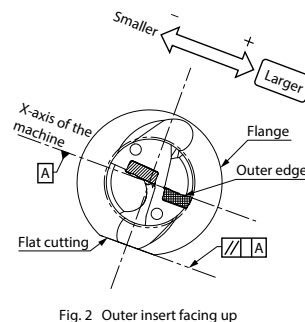
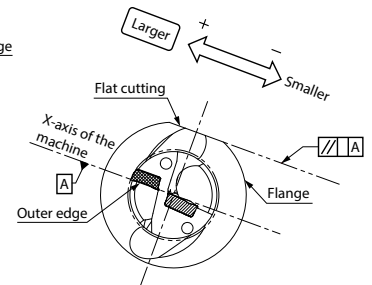

Fig. 2 Outer insert facing up
Fig. 3 Outer insert facing down
2. For making the hole diameter larger, slide the tool along the X-axis toward the outer insert side. (Fig. 2, Fig. 3)